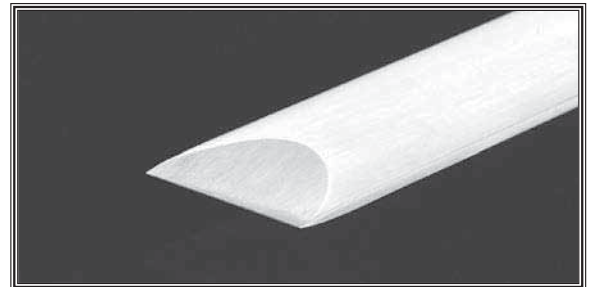

Figure 27. Skew chisel.
- **Skew Chisel**—A very versatile tool that can be used for planing, squaring, V-cutting, beading, and parting off. The skew chisel is flat, double-ground with one side higher than the other (usually at an angle of 20-40°). **Figure 27** shows an example of a skew chisel.